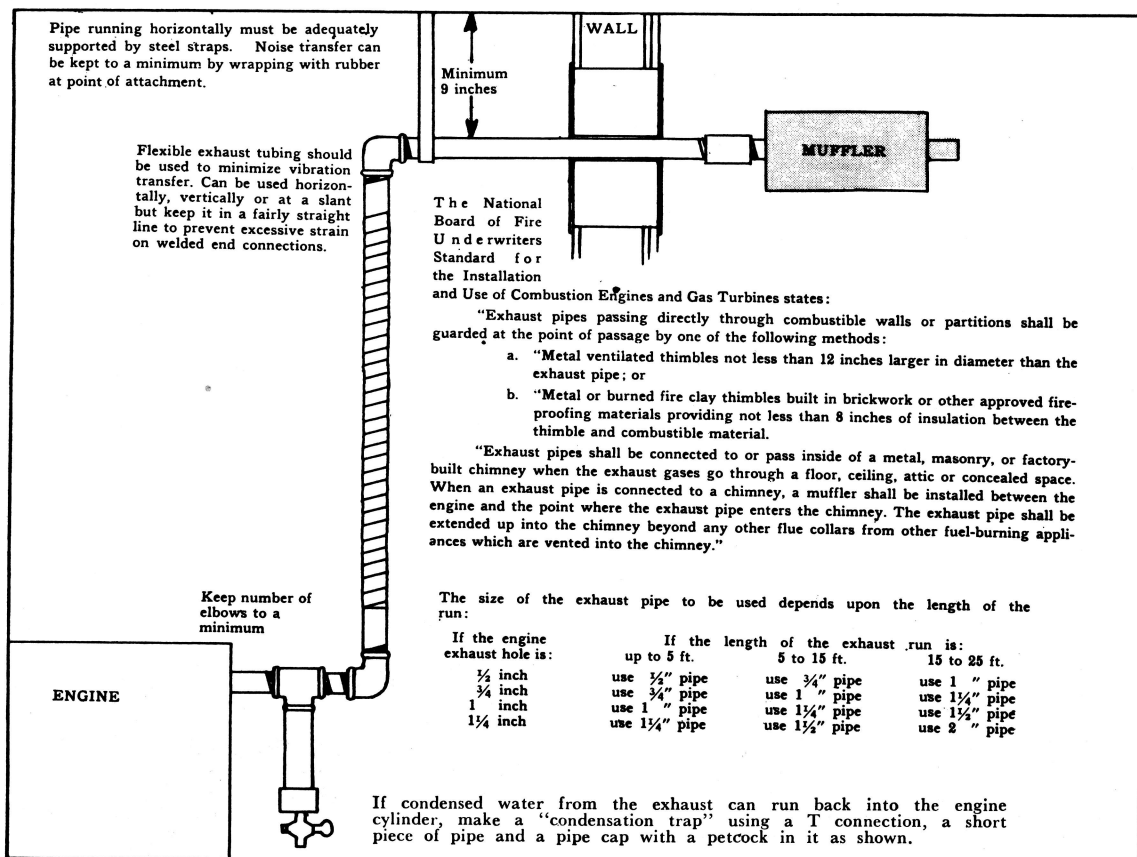

Figure 1
5. **EXHAUST.** Exhaust gases from gasoline engines are extremely poisonous. Whenever an engine is installed indoors the exhaust fumes must be vented to the outside. The engine should be installed at least two feet from any outside wall and the exhaust recommendations given in Figure 1 should be followed. Using an exhaust pipe which is too long or too small can cause excessive back pressure which will cause the engine to heat excessively and possibly burn the valves.